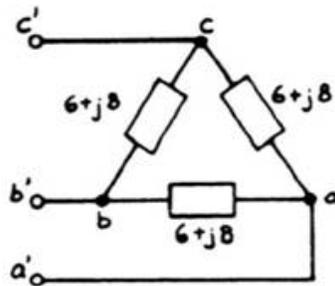

Figure A.4
A.5. Find the total power in the delta-connected load shown in Figure A.4 where: